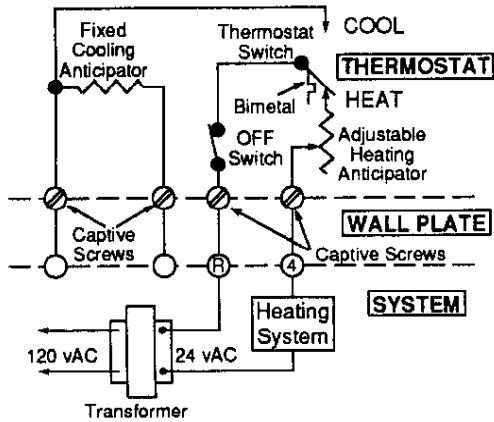

Figure 2. Typical wiring for heating only system
2. Pull wires through opening near center of wall mounting plate and connect wires beneath terminal screws (see figs. 2 through 5).